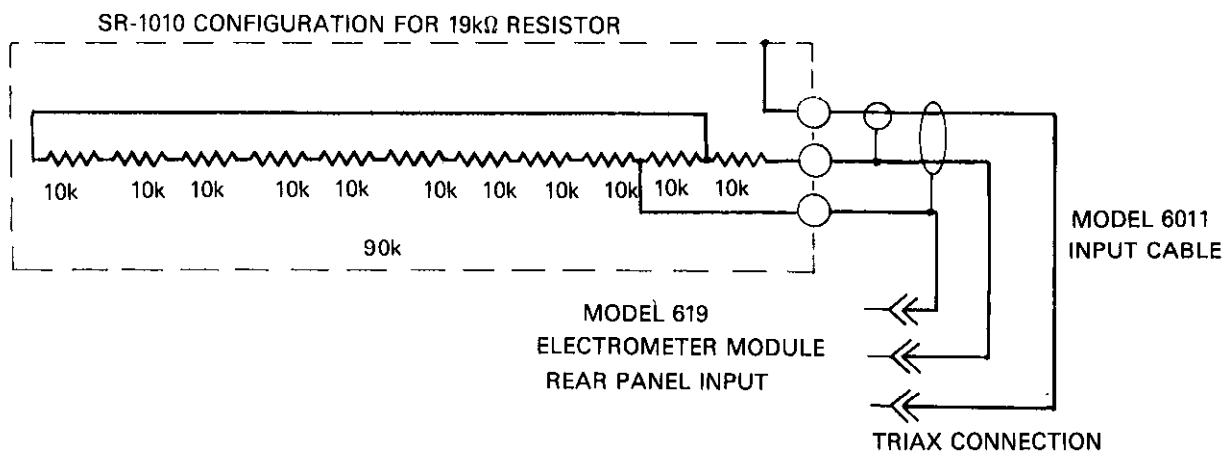

Figure 6-7. Range Calibration 20kΩ
10. 20k $\Omega$  Range (Ohms Reference) Calibration: Zero Check the Model 619 and set the Ohms function. Select the 20k $\Omega$  range and verify a display reading of 0.000 +3 using Zero Correct if necessary. Connect the 19k $\Omega$  Calibration Resistor to the input of the Model 619, release the Zero Check and adjust R657 for a display reading of 19.000 +3 to within  $\pm 1$  count. Refer to Figure 6-7.